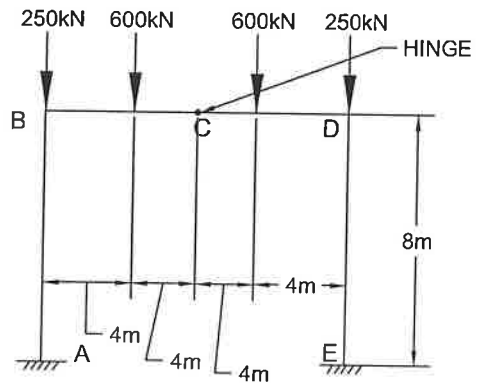

FIGURE 3
- B2. Referring to Figure 3; Design a reinforced concrete cross-section for portion A-B of member A-B-C, assume the cross section is to be square and the concrete shall have a compressive strength of 35MPa.
- B3. For the frame in Figure 3 design a rectangular footing with a 4 to 1 ratio member ABC, to resist the factored forces. Assume an ultimate bearing capacity of 200kPa. Detail the connection of the column to the pier assuming a square cross-section. The footing shall be made out of 25MPa concrete.